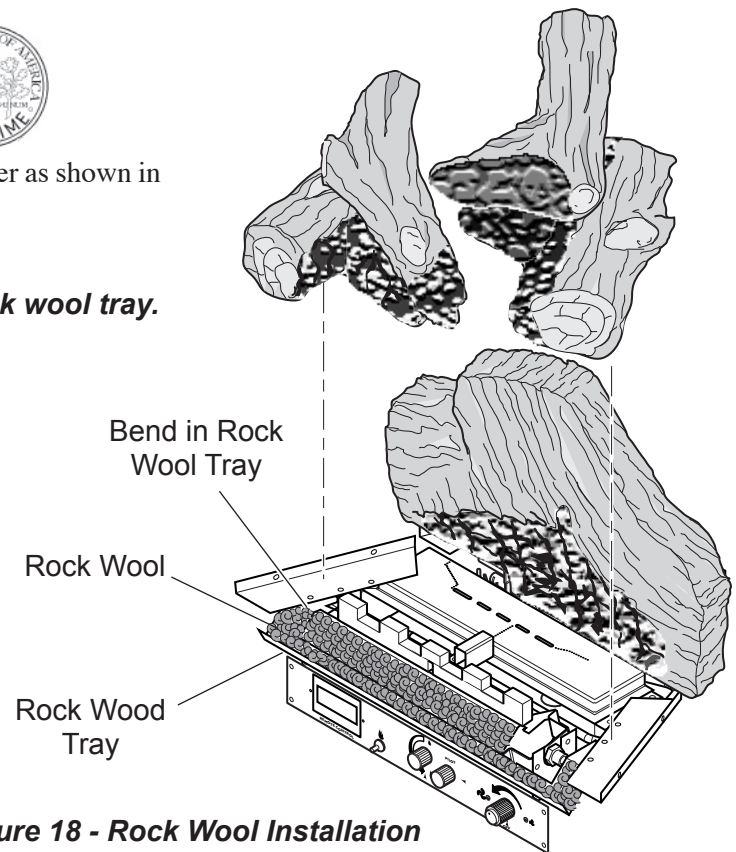

Figure 18 - Rock Wool Installation
2. Place rock evenly across rock wool tray and front burner as shown in *Figure 18*.